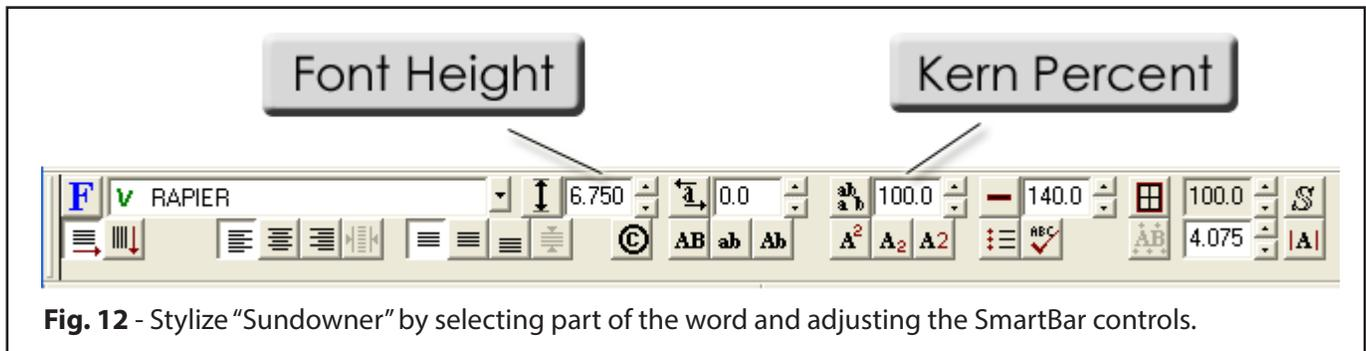

Fig. 12 - Stylize “Sundowner” by selecting part of the word and adjusting the SmartBar controls.
2. Change the **Font Height** to 6.75 (Fig. 12).